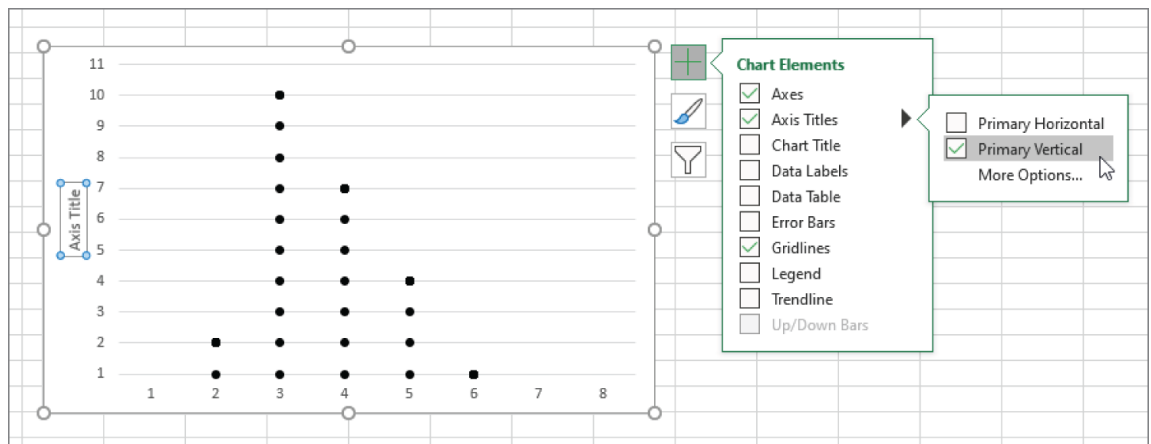

Figure 7.50: Adding an axis title
5. In the Chart Elements dialog, choose Axes Titles and add a title for the vertical axis, as shown in Figure 7.50.